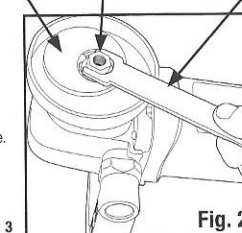

Fig. 2
2. Position **spindle wrench (A) Fig. 2**, (furnished with polisher) to engage the flats on the **spindle (B) Fig. 2**.
Notes: It may be necessary to rotate the **backing plate (C) Fig. 2** (by hand) to expose the spindle flats.